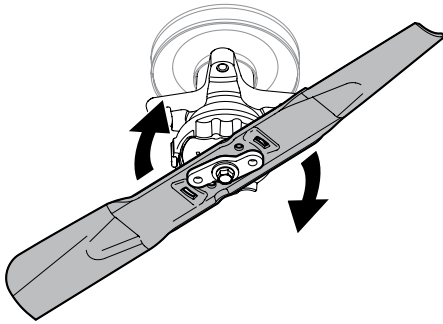

Figure 4-11
- Rotate the blade clockwise to align with the blade adapter. See Figure 4-11.